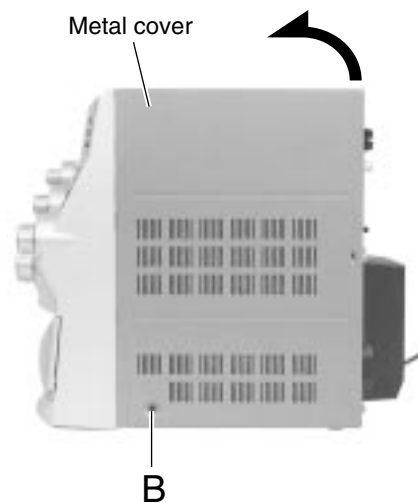

Fig.2
4. Solder is put up before the card wire is removed from connector CN601 on the CD servo control board as shown in Fig. 2.